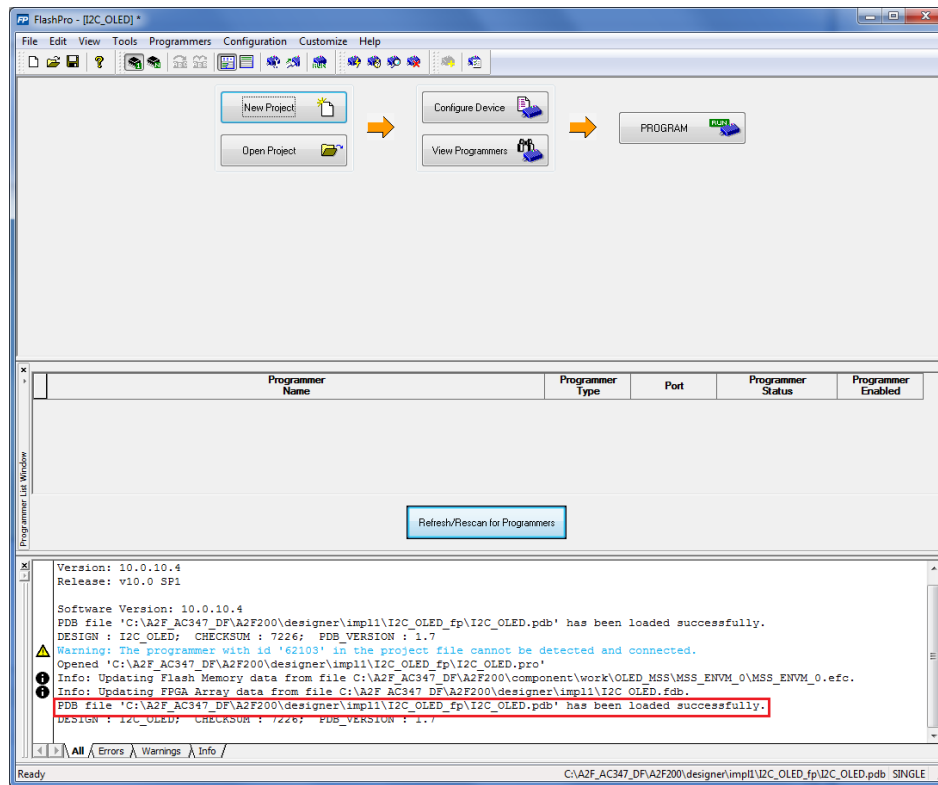

Figure 11 · PDB File Loaded by FlashPro
12. The FlashPro tool will be displayed as shown in the Figure 11 . .